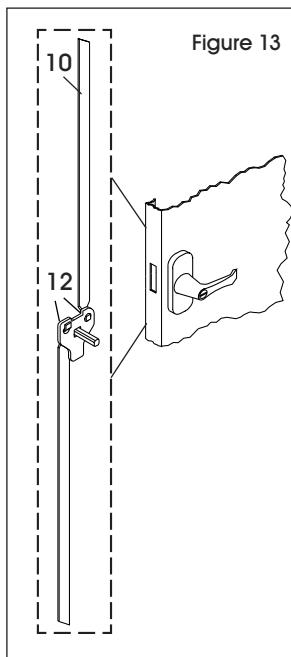

Figure 13
3. With the handle still in the open position, hook the locking bars (10) to the locking cam. (See Figure 13) Once in position, slowly rotate the door handle to the closed position so the lock bars protrude from the holes at the top and bottom of the door.